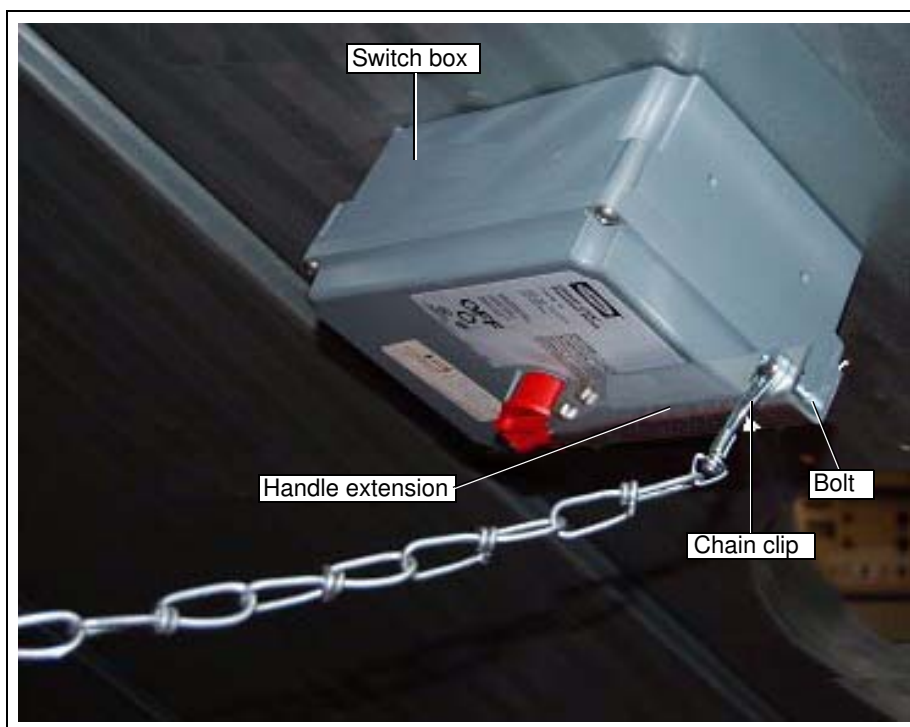

Figure 4AQ
- String the lead-in wire through the chain link clevis on the bottom of the suspension bar toward the bar with the safety chain "S" hook. (**Do not attach the wire to the end of the suspension bar.**) The lead-in wire can then be suspended above the safety chain and routed to the switch box. (See Figure 4AR on Page 38.)